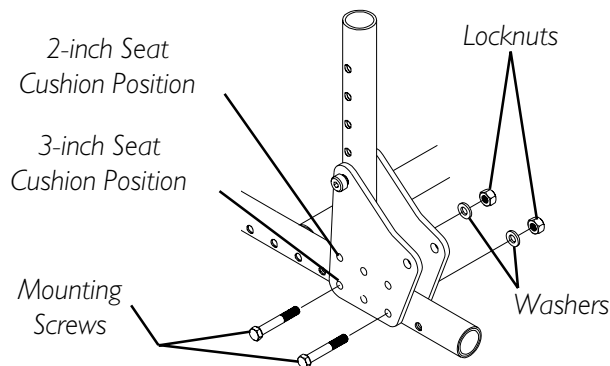

FIGURE 7 - ADJUSTING THE BACK HEIGHT - RECLINER MODELS ONLY
ADJUSTING THE BACK HEIGHT - RECLINER MODELS ONLY (FIGURE 7)
2. Remove the two (2) mounting screws and locknuts that secure the seat adjustment plates to the seat rail. Repeat for opposite side.
3. Refer to FIGURE 7 to determine the seat adjustment plate mounting position for the corresponding seat cushion height.
5. Secure the seat adjustment plates to the seat rail with the two (2) existing mounting screws. Repeat for opposite side.